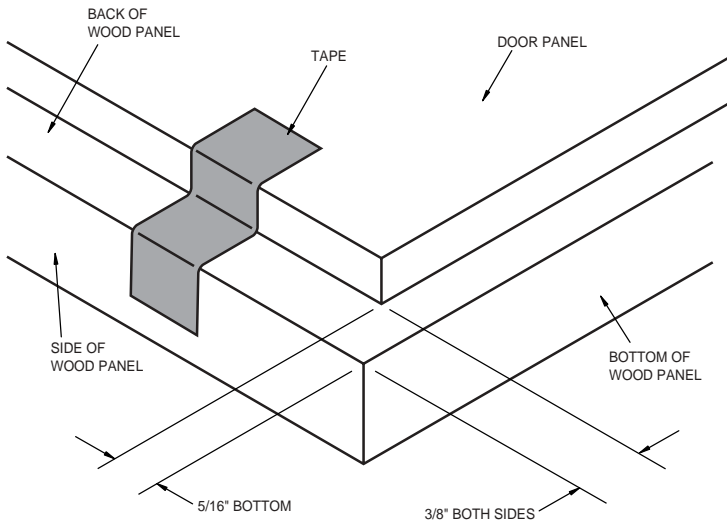
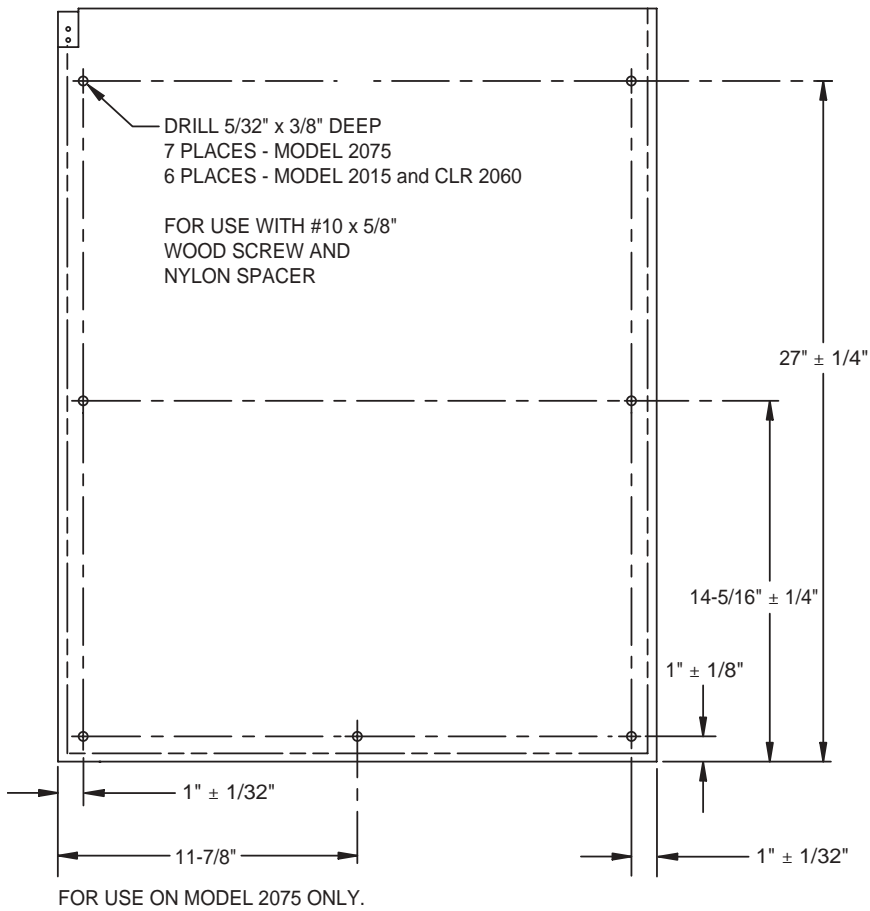

Figure 4
Figure 5
- c. Place and tape the existing door panel on the back of the wood panel (see Figure 4) and drill holes through both panels according to the diagram (see Figure 5). Remove tape from the door panel, and enlarge the seven holes in the front panel using a 0.201" (#7) drill.